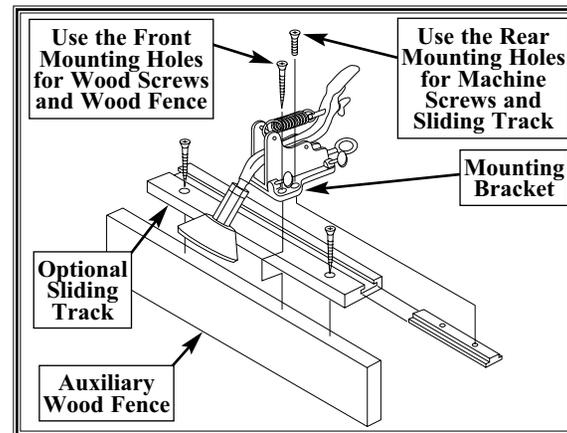

Figure 2. Auxiliary wood fence and an optional sliding track.
The Board Buddy brackets (3) can be installed directly on an auxiliary wood fence (not included) or an optional sliding track (12" part # W1107 or 24" part # W1108 not included). The optional sliding track also mounts to the auxiliary wood fence. See **Figure 2**. Also available are T-Nuts (W1103) for the Shop Fox® saw fence, and T-Nuts (D3039) for Craftsman and Rigid fences.
6. Mark the FRONT screw hole locations and drill the pilot holes into the wood fence for the wood screws (REAR holes are for the optional track). See **Figure 2**.